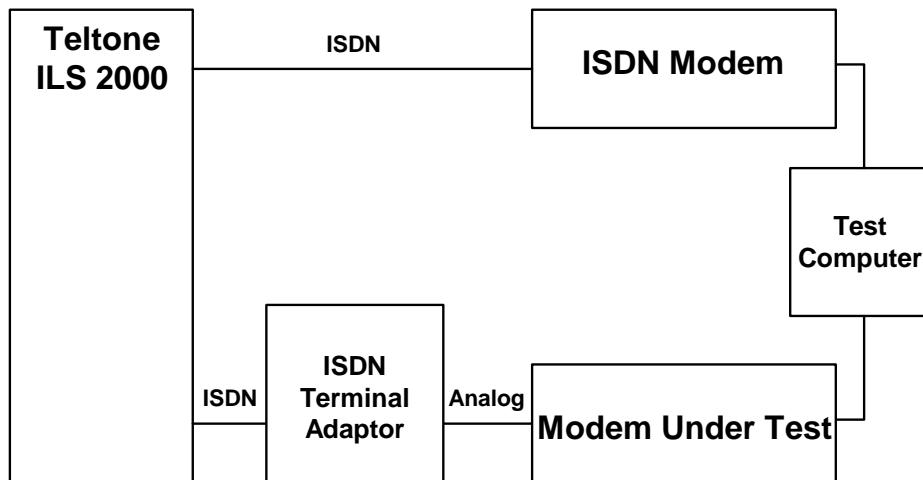

Figure 49. V.90 Modem Functional Test Connection
V.90 modems must be tested with a digital modem, such as theUSR Courier I. If a digital modem isn't used as illustrated in Figure 49, the highest connection speed a V.90 modem will support is 33.6 kbps. A call can be placed or received in either direction at the speed set in the modems. A test script must be written for a computer to control the dialing, monitor the call progress, send a file, and compare the received and sent files. Figure 49 illustrates this test configuration.